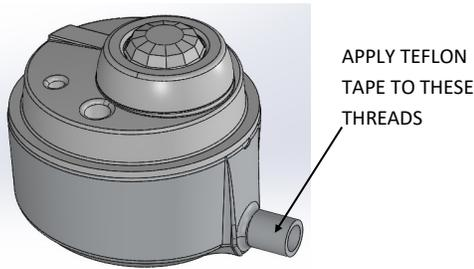

Fig. 2
2. Apply Teflon tape to threads of Limelight pod leaving about 1/8" of threads exposed at end. Feed Limelight wires through the hole in side of housing and thread Limelight pod assembly into the 3/8 NPS hole located on the side of the housing. The threaded portion should extend about 1/4" inside of the housing. See Fig. 2.